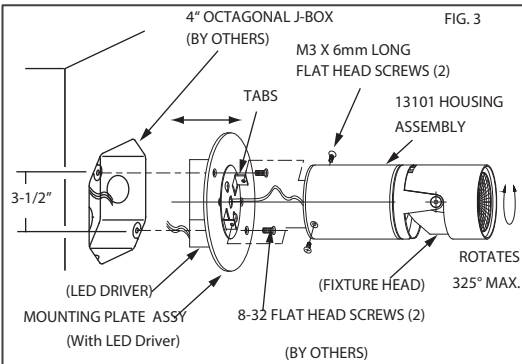

FIGURE 3: FIXTURE INSTALLATION (WALL MOUNT ONLY)
5. Secure Mounting Plate Assembly (with LED driver) on j-box (by others), LED driver fits in 4" octagonal j-box, with appropriate hardware (by others) (FIG 3). Keep wires from Housing Assembly to Mounting Plate Assembly attached. Do NOT pull on wires from Housing Assembly to LED driver.
6. Align the two (2) tabs on the Mounting plate to the slots in the top of the Housing Assembly (FIG. 3).
5. Locate the Track Polarity line and the Ground Connector on the and Track Mount (see above left and FIG. 2 and FIG. 3).
6. Pull down on the Track Mount locking lever and insert the Adapter Contacts in the Alcon Single or Dual Circuit Track slots (see FIG. 3).